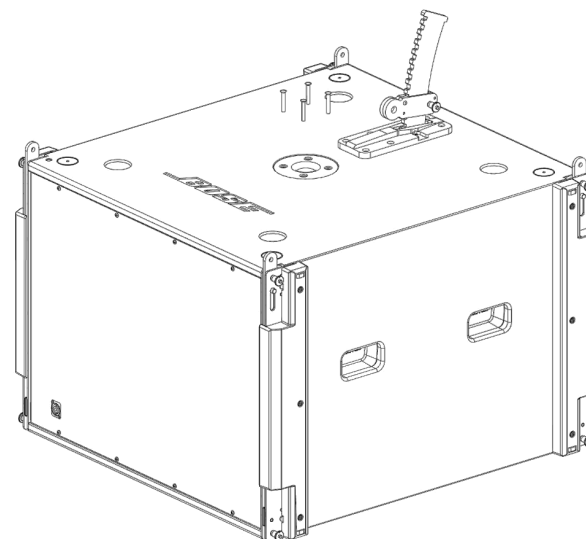

Fig 5. Remove pole mount screws
3. Remove the 4 screws connecting the pole mount to the top of the subwoofer. Do not remove the actual pole mount. See Fig. 5.